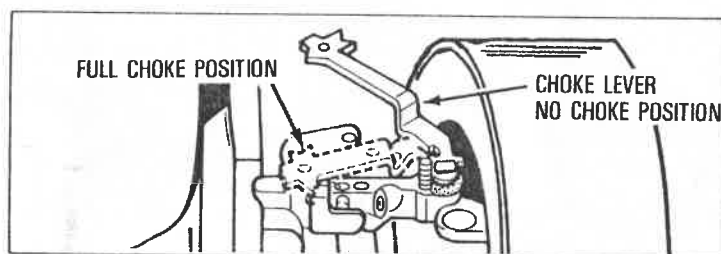

Figure 4
A. Move choke lever (see Figure 4) to "FULL CHOKE POSITION".
- A. Move choke lever (see Figure 4) to "FULL CHOKE POSITION".